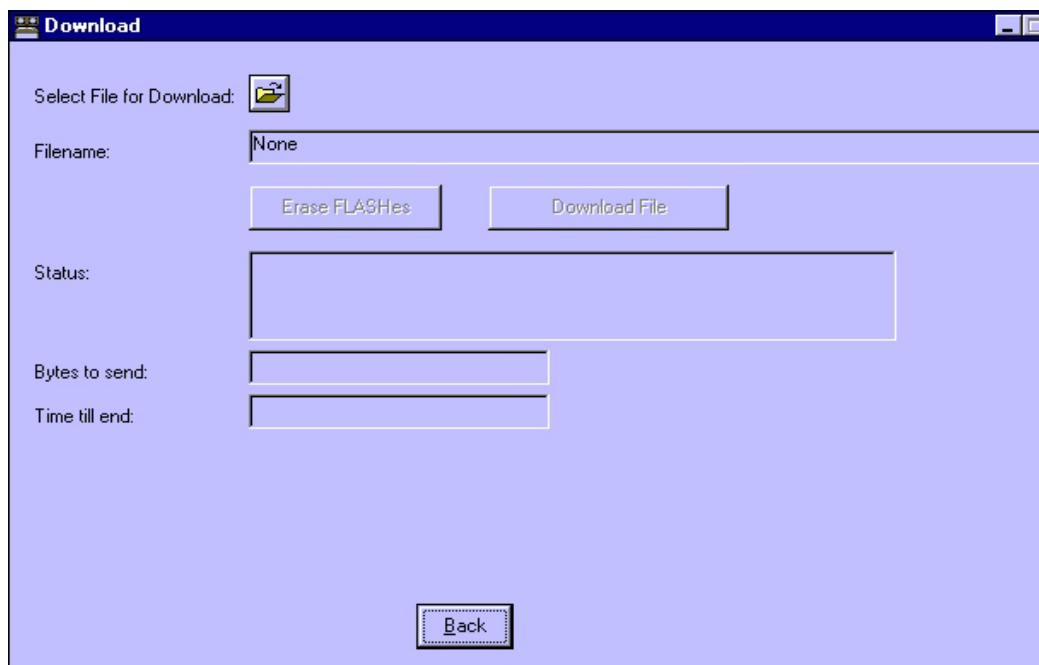

Fig. 8
- Click on the "Select file for Download:" button in the download window (1 / Fig. 8).